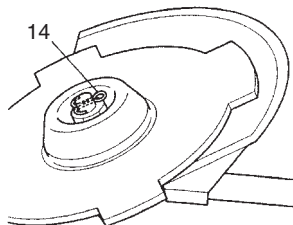

Fig. 9
- When installing cutter holder cap (11), be sure to set concave side upward.
- Insert the alien wrench (10) into the hole of the angle transmission in order to lock the cutter holder (12). Please note that the cutter fixing bolt or nut (13) has left-handed threads, (clockwise to loosen/ counter-clockwise to tighten). Tighten the fixing bolt or nut with the box wrench.
- If your unit is of a nut securing type and equipped with a cotter pin, the blade must be retained with a new pin (14) each time installed. (Fig. 9)